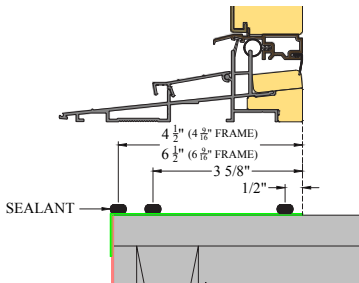

FIG. 17: 4-9/16" & 6-9/16" IN-SWING PATIO DOOR SILL
- Apply three 1/4" continuous beads of silicone across the entire width of the rough opening. (Fig. 17) shows the silicone location for a 4-9/16" and 6-9/16" in-swing door. The bead location will be different for other jamb sizes. (Fig. 17)